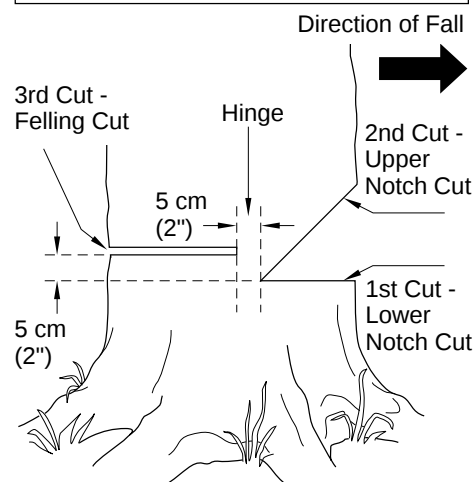

Figure 12 - Felling A Tree
A properly placed felling notch will determine direction tree will fall. Place felling notch on side of tree in direction you want tree to fall (see Figure 12). Follow directions below to create a felling notch.
1. Make lower notch cut as close to ground as possible. Hold saw so guide bar is horizontal. Cut 1/3 the diameter of tree trunk (see Figure 12). **Note:** Always make this horizontal lower notch cut first. If you make this cut second, tree can pinch chain or guide bar.
2. Start upper notch cut the same distance above first cut as first cut is deep. **Example:** If lower notch cut is 20 centimeters deep (eight inches), start upper notch cut 20 centimeters (eight inches) above it. Cut downward at 45° angle. The upper notch cut should meet end of lower notch cut (see Figure 12).
1. Make felling cut five centimeters (two inches) higher than lower notch cut and on opposite side of tree (see Figure 12). Keep felling cut parallel to lower notch cut.
⚠ WARNING: Do not cut all the way through tree. Leave about five centimeters (two inches) of tree diameter uncut directly behind felling notch (see Figure 12). This uncut portion acts as a hinge. The hinge helps keep tree from twisting and falling in wrong direction.